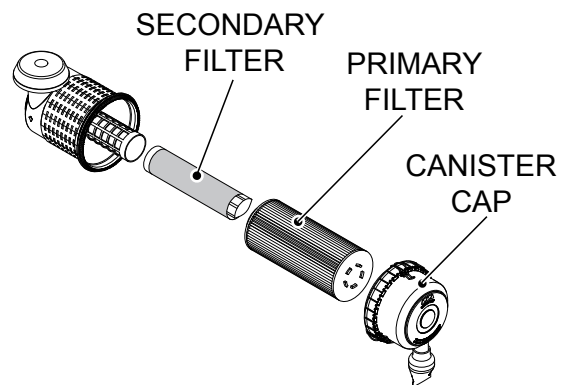

Figure 50. Secondary Filter
6. Pull out and check the secondary filter (Figure 50) and replace if required. The secondary filter can not be cleaned.